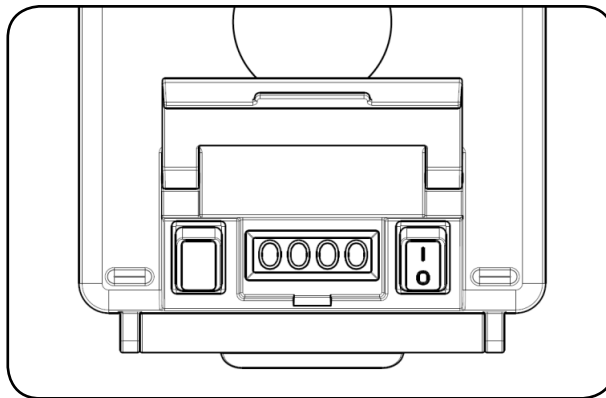

Figure 1
Step 1: Lift the glare resistant screen cover. Press the power button on the right side on the display to turn the assist module on (**Figure 1**). Then press the settings button on the left to enter the menu.